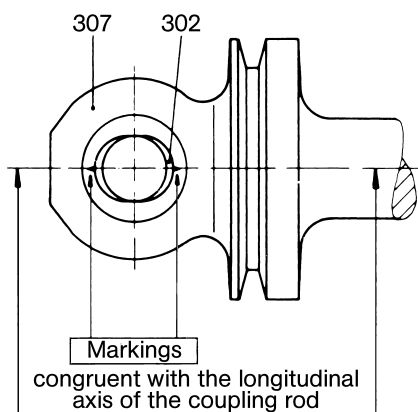

Figure 6: Pressing-in of the coupling rod bush
- Press drive shaft (118) with all mounted parts into the bearing bracket (110). Slightly oil bearing seats previously.
- Mount circlip (108).
- Push flinger ring (114) into bearing direction.
- Insert key (101) in the drive shaft (118) and lock by two punch marks on the front side.
- With a brass drift, drive bushes for coupling rod pin (303) half-way into rotor (401).
- Press coupling rod bush (302) into the joint head (307) so that the longitudinal axis of the oval hole (marked with two notches) coincides with the longitudinal axis of the joint head and the coupling rod bush protrudes symmetrically from both sides of the joint head (please refer to Figure 6 below).